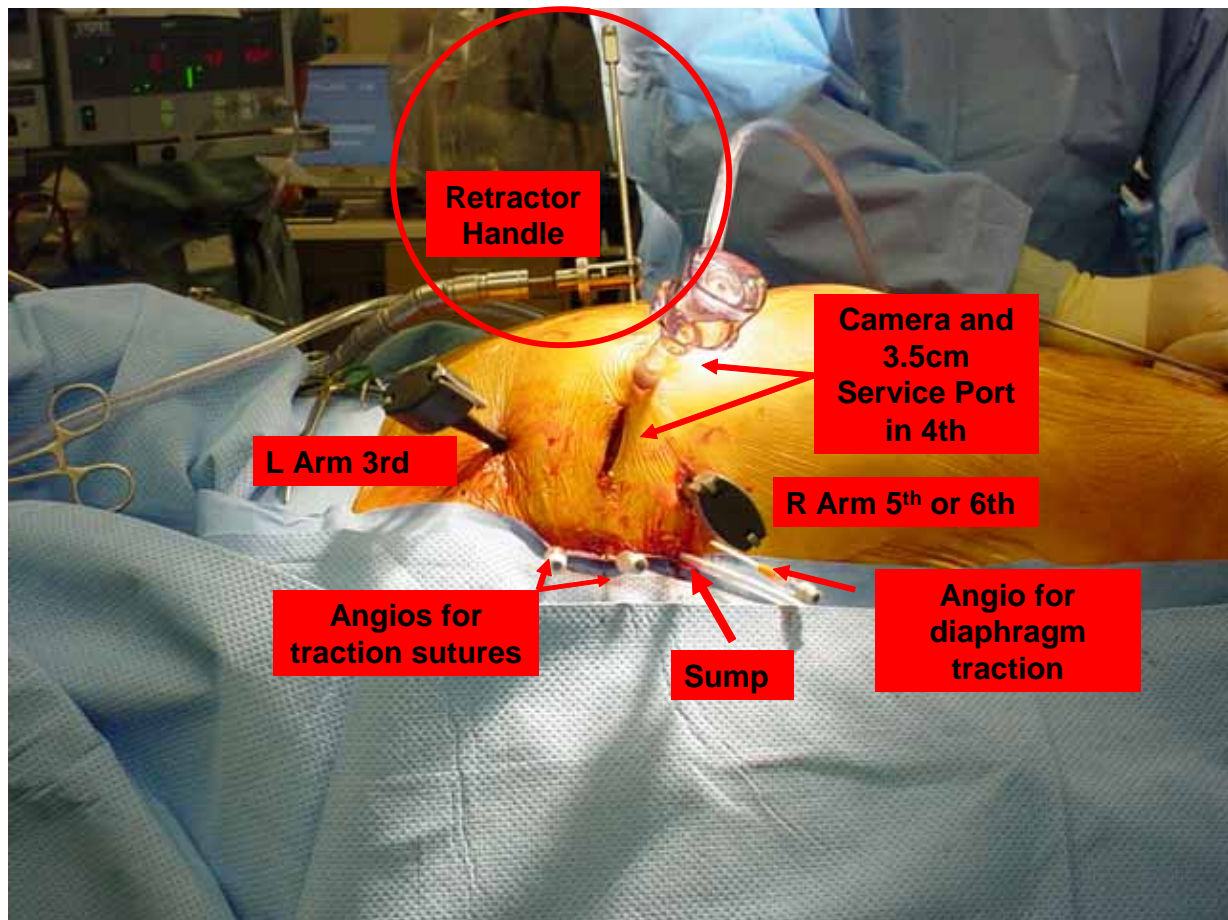

Figure 11: port set up in right chest with manual mechanical atrial retractor system (Cardiovations or Estech)
- Secure with the Mediflex laparoscopic holding arm (or similar) [Figure 11].